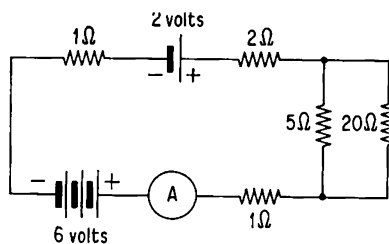

Fig. 78
27. In Fig. 78 what will the meter read if it has negligible resistance? What current will flow through the 20 ohm resistor? What will be the p.d. across the 2 ohm resistor?